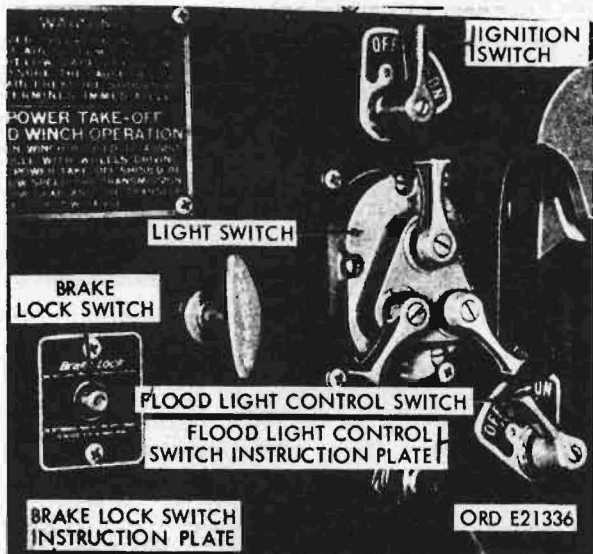

Figure 67. M60 and M108 instrument panel - left side
- (3) Brake lock switch (fig. 67). This switch, located on the left side of the instrument panel, is used to actuate the solenoid brake lock which holds the
- (4) **Floodlight control switch (fig. 67).** This switch, located on the left side of the instrument panel, controls power to the cab and crane floodlight switches. Each individual floodlight is also equipped with an on-off control switch, located on the lower rear of the floodlight.